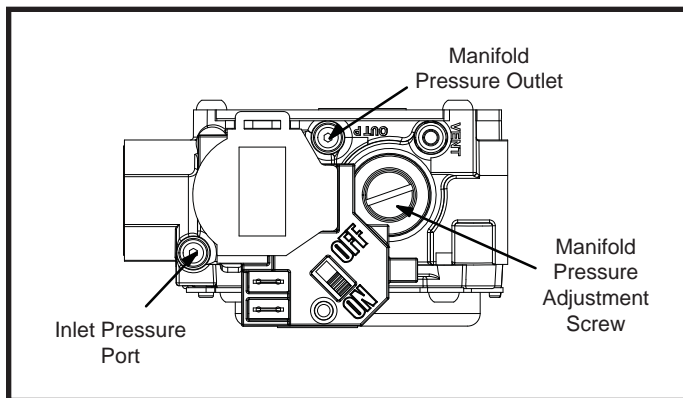

Figure 1. Single Stage Gas Valve
6. Slide the gas control switch, or turn the gas control knob, to "OFF" (see **Figure 1**).
4. Slide the gas control switch, or turn the gas control knob "OFF" (see **Figure 1**). Do not force.